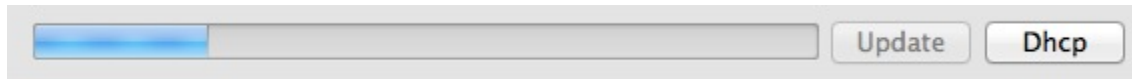
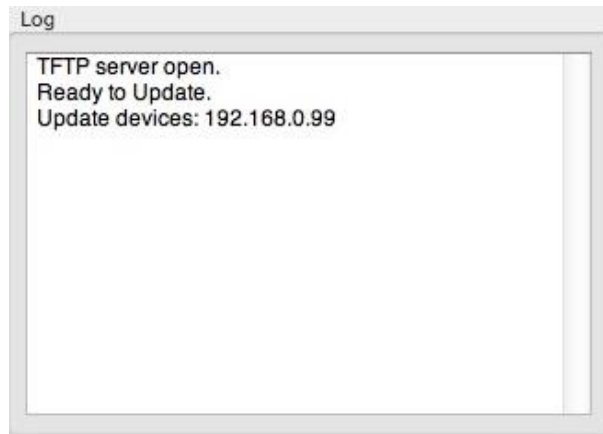

Figure 30c
Figure 30d
5. Select the **Update** button. Reference Figure 30c. A progress bar will provide you with the upgrade status. Reference Figure 30d. There will also be reference information shown in the dialog box.